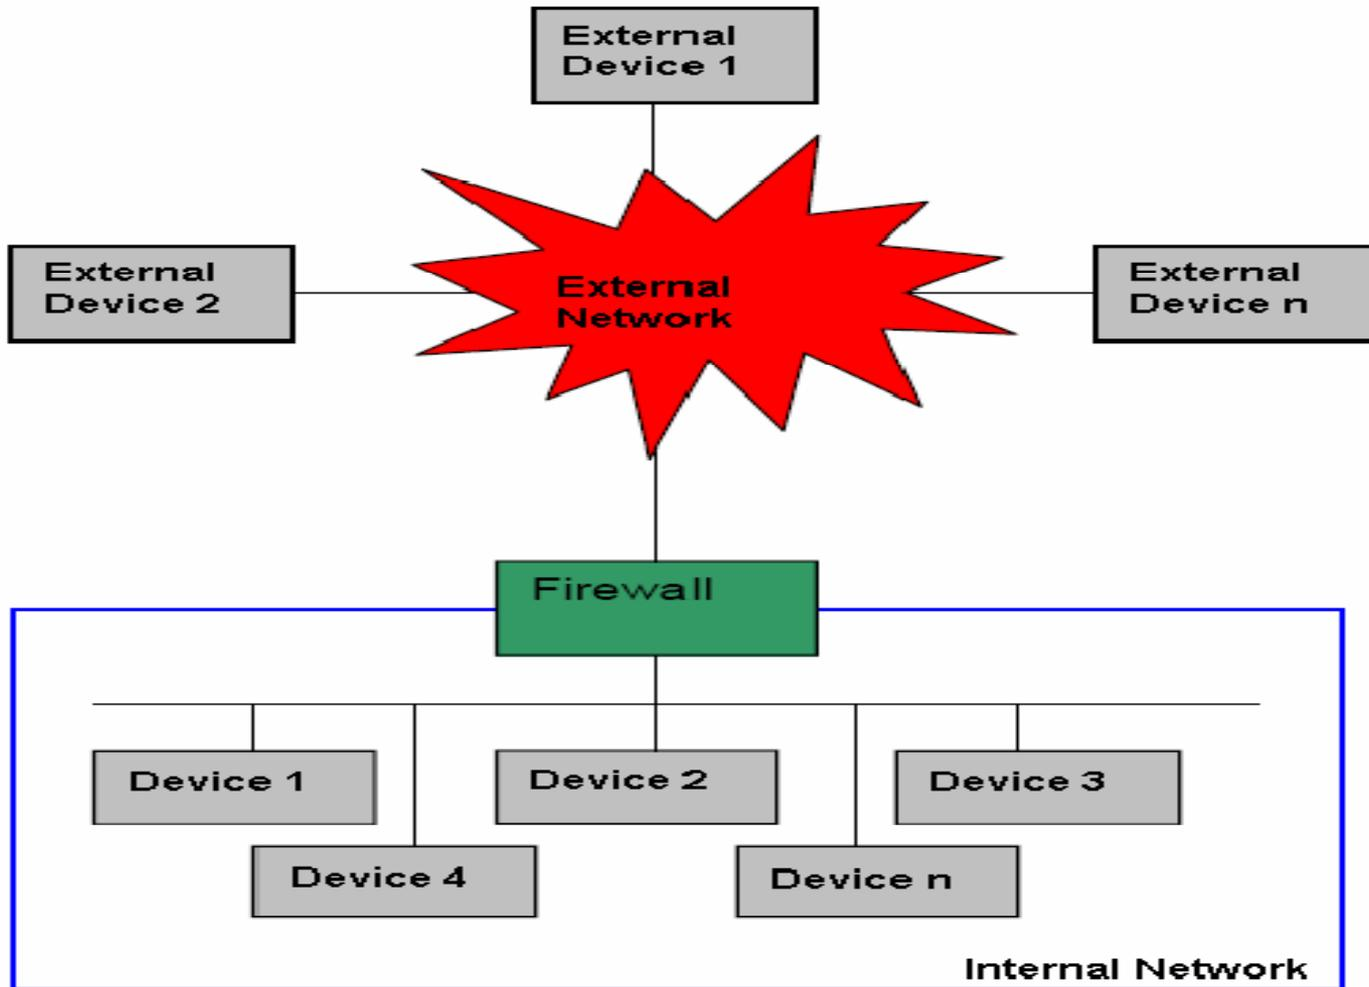

Figure 1: Firewall function of the security module
- This is carried out by a packet filter working on layer 2 and 3 on the security module. The packet filter controls the communication between the internal network and the external network (see Figure 1).